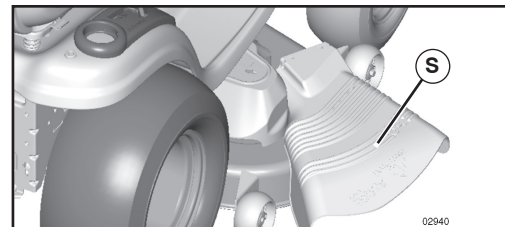

Fig. 11
TO OPERATE MOWER (See Fig. 11)
CAUTION: Do not operate the mower without either the entire grass catcher, on mowers so equipped, or the deflector shield (S) in place (See Fig. 11).